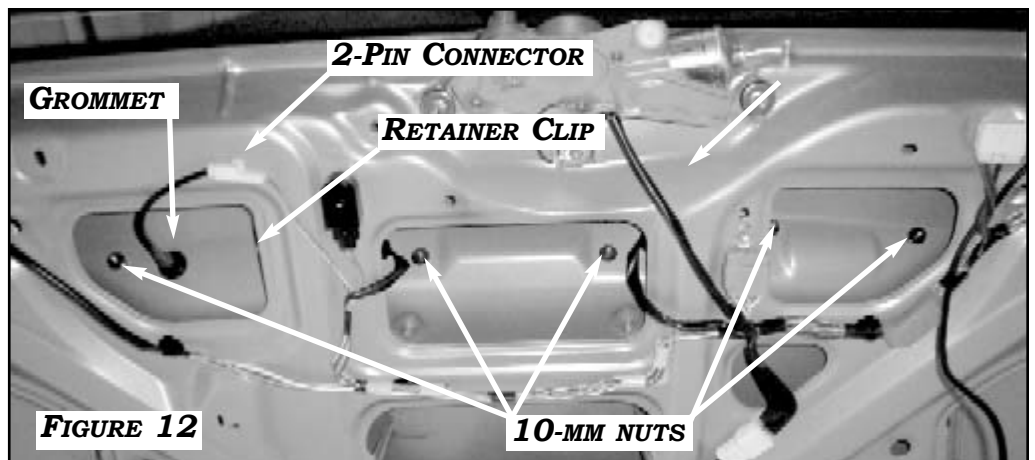

FIGURE 10
5. FOR MODELS WITH POWER REAR DOOR: REMOVE REAR DOOR TRIM PANELS BY DISCONNECTING THE AUTOMATIC DOOR SUPPORT ARM FROM DOOR CONNECTION (**FIGURE 10**) AND REMOVING (1) **10-MM BOLT** SECURING HANDSTRAP (**FIGURE 11**).